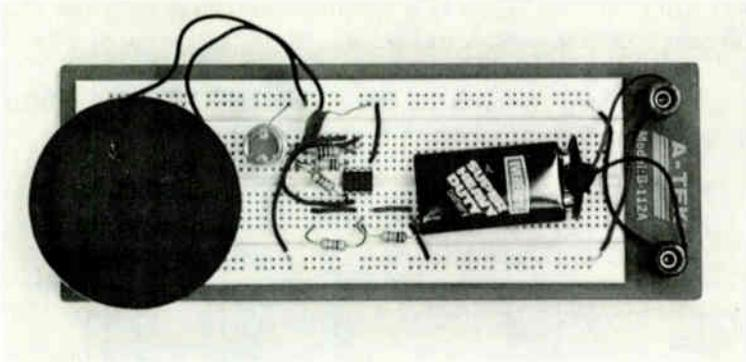
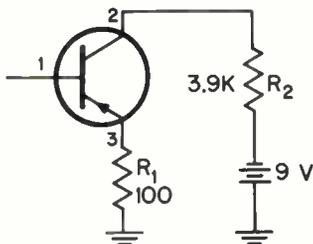

Fig. 33
Fig. 39
RELATING A SCHEMATIC TO THE ACTUAL CIRCUIT . . . To be proficient in electronics, you must be able to pick out the actual circuit components and relate them to the schematic—and, conversely, relate the schematic to the actual components. Figure 33 shows a breadboarding socket with nine components (electronic parts) mounted on it. The parts are a 555 timer chip, five resistors, a light-dependent resistor, a speaker, and a 9-V battery.
1. In Fig. 39, resistor R_2 has a resistance of _____ ohms.
2. Resistor R_1 in Fig. 39 would have a color code of _____, _____, and _____.
3. The terminals of the transistor in Fig. 39 are numbered 1, 2, 3. Give the terminal name that corresponds to each of these numbers.
4. The (positive) (negative) side of the battery is directly tied to one side of R_1 in Fig. 39.
5. Is Fig. 39 the complete schematic for the circuit mounted on the bread board in Fig. 33?
5. No it isn’t . . . This circuit shows only two resistors, for one thing, whereas the circuit in Fig. 33 uses five.